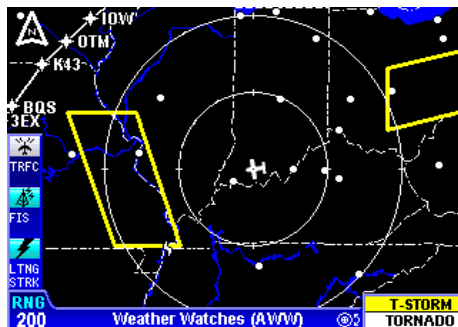

Figure 2-47
1. Press the **WX** Function Select Key until the FIS Graphics Page is displayed. If necessary, turn the Rotary Knob to obtain the Graphical Weather Watches display similar to Figure 2-47. **Weather Watches (AWW)** will be displayed at the bottom of the display.